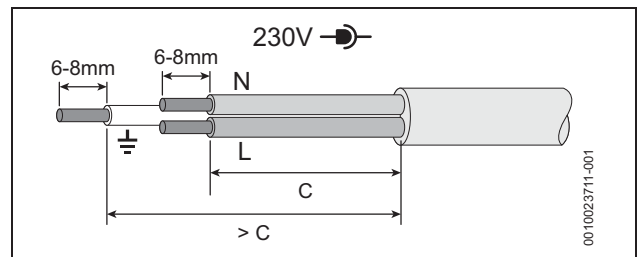

Fig. 65 Power supply (power cables) preparation
**Power supply (power cables), example → figure 65**
- ▶ Ensure the conductors (C) can reach the appropriate terminal connection and that the protective conductor (PE) is longer than the other wires.